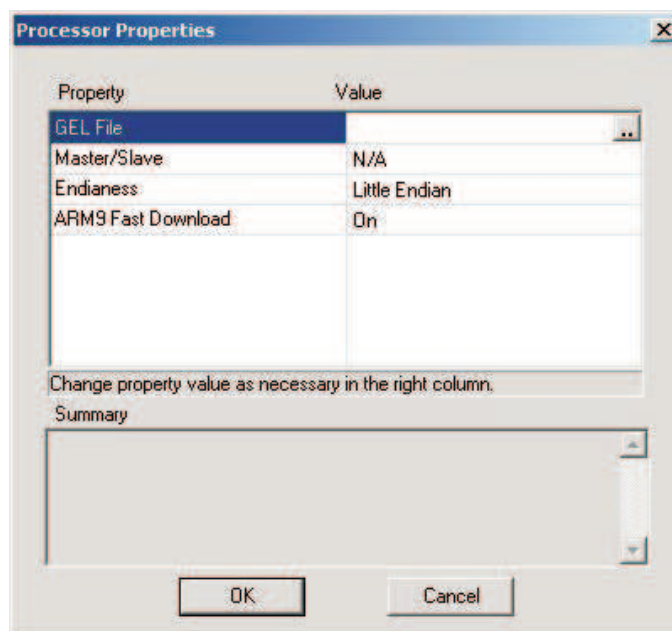

Figure 4. Gel File Setup
Step 7. The dialog box for setting up the Gel file appears in Figure 4. Navigate to the CCS_3.2.2/Boards/DavinciEVM/gel for the correct GEL file. Use the DaVinciEVM_arm.gel for ARM and DaVinciEVM_dsp.gel for DSP components.